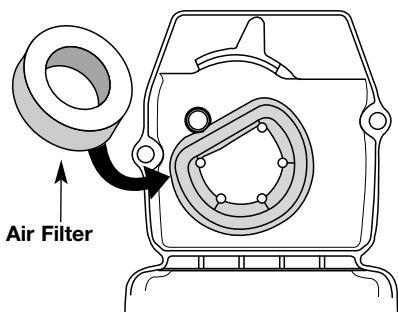

Fig. 21
2. Remove the air filter from behind the air filter/muffler cover (Fig. 21).
6. Replace the air filter in the air filter/muffler cover (Fig. 21).